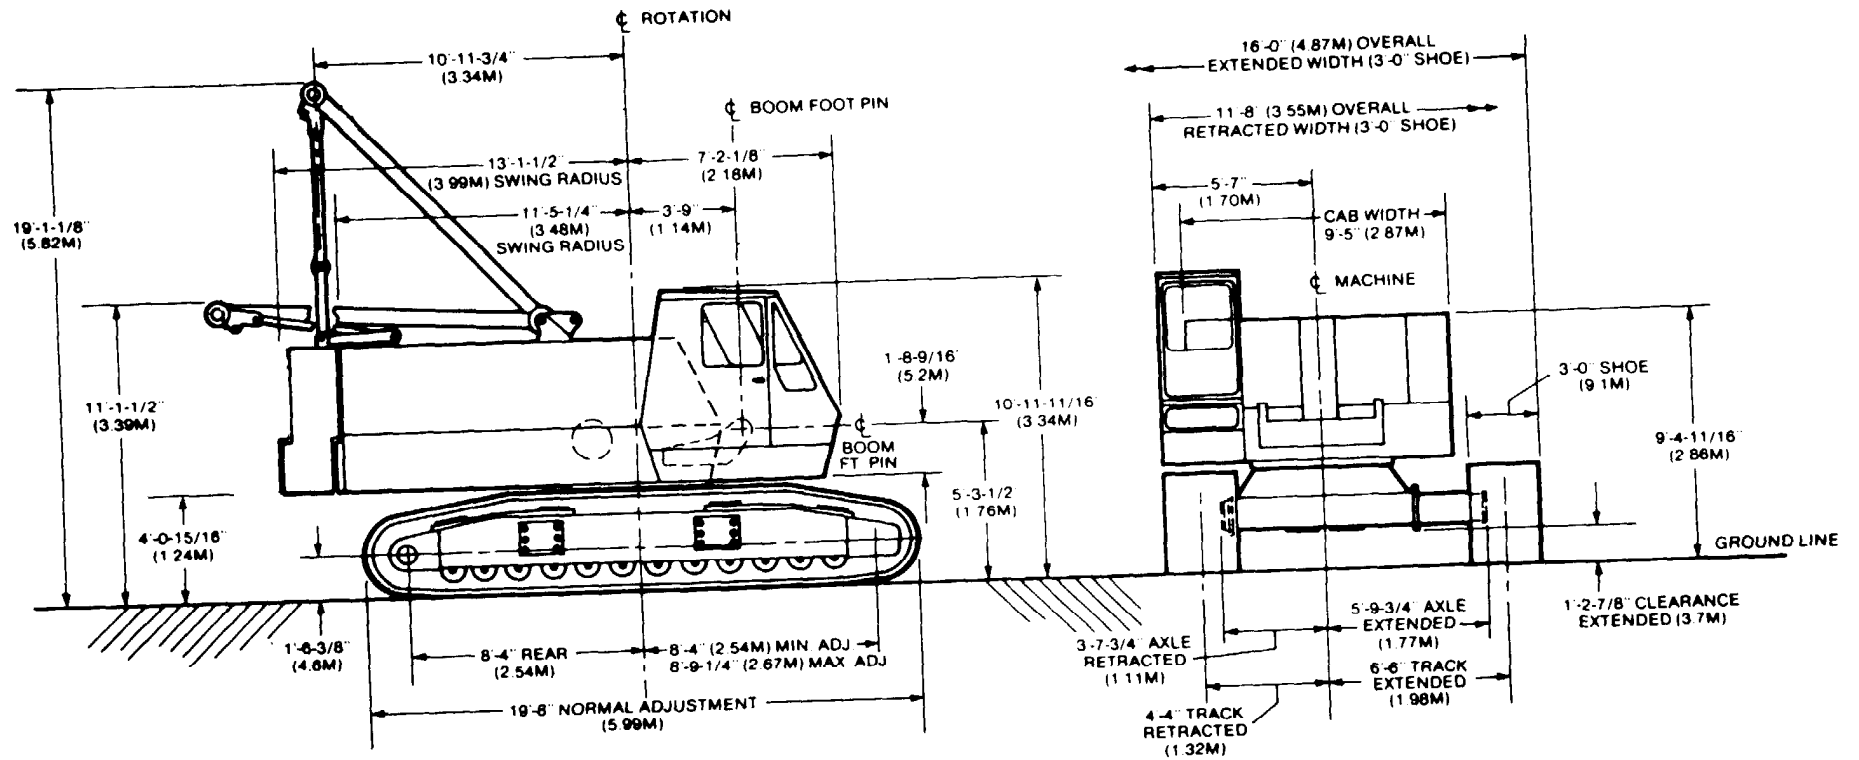

Figure 1-4. General Dimensions (2105J170)
**GENERAL DIMENSIONS:** Figure 1-4 gives the dimensions commonly required for machine shipping and erection.